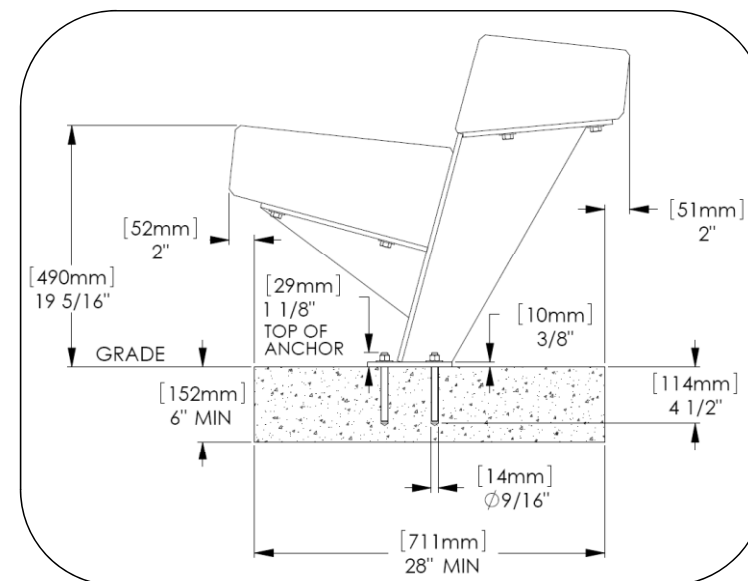
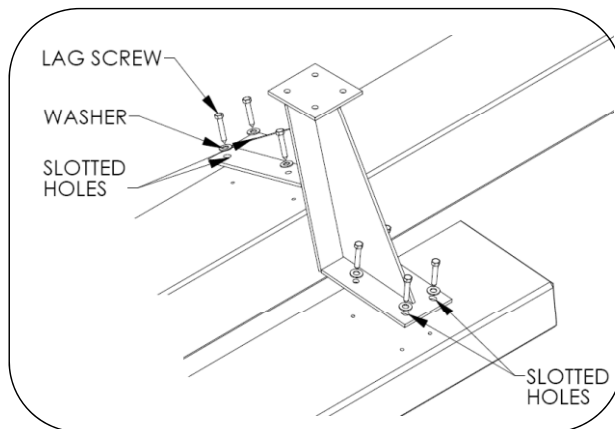

Fig. 1 – Surface mount at grade
Fig. 4 – Assemble bench
2. Assemble wood seat and back to supports as shown in Fig. 4. Tighten all screws until snug. Lag screws in the slotted holes only, see Fig. 4, should then be loosened 1/4 turn. Refer to side elevation in Fig. 1 for proper orientation of seat and back. Note: each wood component weighs between 250-350 lbs. Proper personnel or equipment is required for lifting. Protect bench from marring and scratching.
6. Set drill template over marked locations. Weight the template and drill the holes according to Fig. 1. Prepare holes according to anchoring adhesive manufacturer's recommendations.